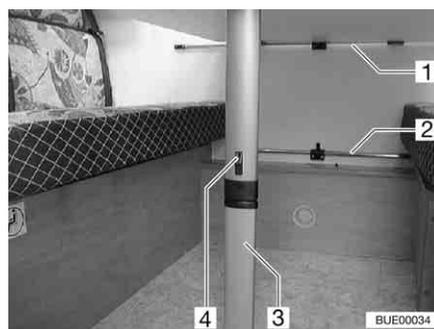

Fig. 76 Suspension table with folding leg
- Move the locking device (Fig. 76,4) toward the table-top.
- Fold the lower section of the foot (Fig. 76,3) under by 90°.
- Detach the suspension table from the upper attachment rail (Fig. 76,1).
- Attach the suspension table to the lower attachment rail (Fig. 76,2) and rest it onto the table leg hinge.